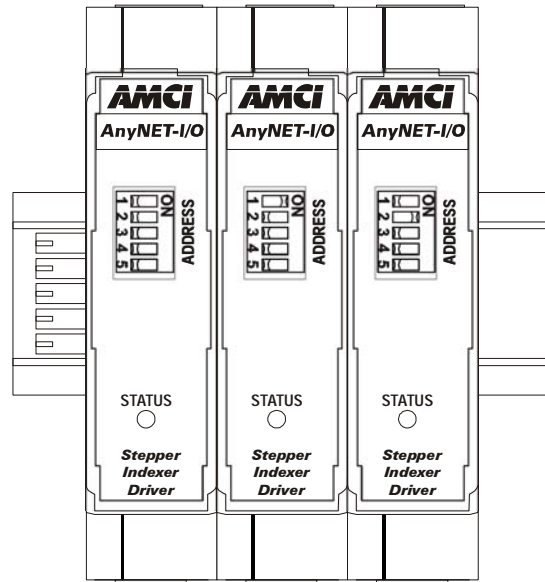

Figure R1.2 IANG1(E) Front Panel
The front panels of three IANG1(E) modules are shown in figure R1.2. The front cover is hinged on the bottom, and swings down to allow you to change the module's address in the AnyNET-I/O Stack with the DIP switches. The front panel also has the Status LED, which give you information on the state of the module.
The AnyNET-I/O platform allows you to connect up to six modules to a single network connection in what we call an AnyNET-I/O Stack. The DIP switch behind the front panel cover is used to set the address of the module within the AnyNET-I/O Stack. The first module acts as the network interface and must have an address of zero. This address is set by having all of the DIP switches in their OFF position. (If you are using a single module, then it must have an address of zero.) The remaining modules in the Stack should have their addresses set to their position in the stack by setting the corresponding DIP switch to its ON position. Figure R1.2 shows the correct addressing for three modules. The module on the left is an IANG1E and has its address set to zero. The remaining modules can be IANG1 or IANG1E modules and their addresses are set to one and two.